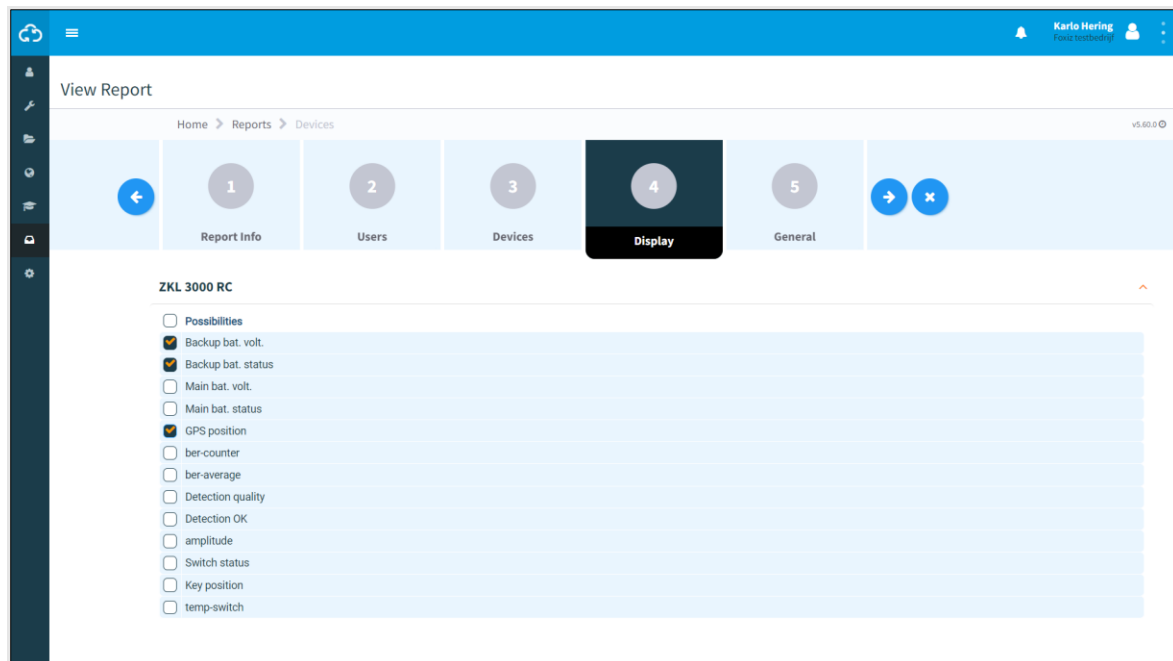

Figure 79 View report - Display
- Step 2 - Display (Figure 79);